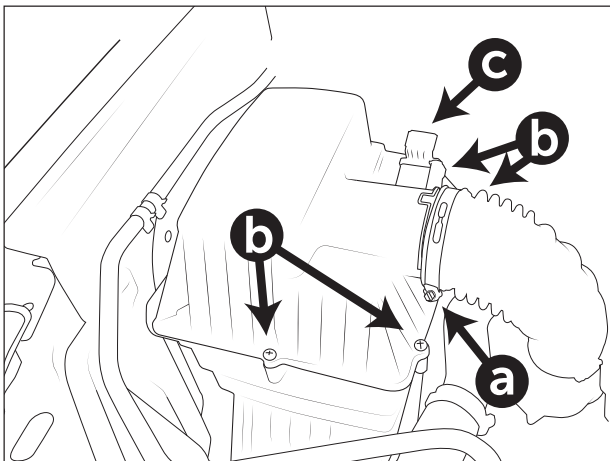

Figure 4
10. Remove Air box (fig. 4–5).